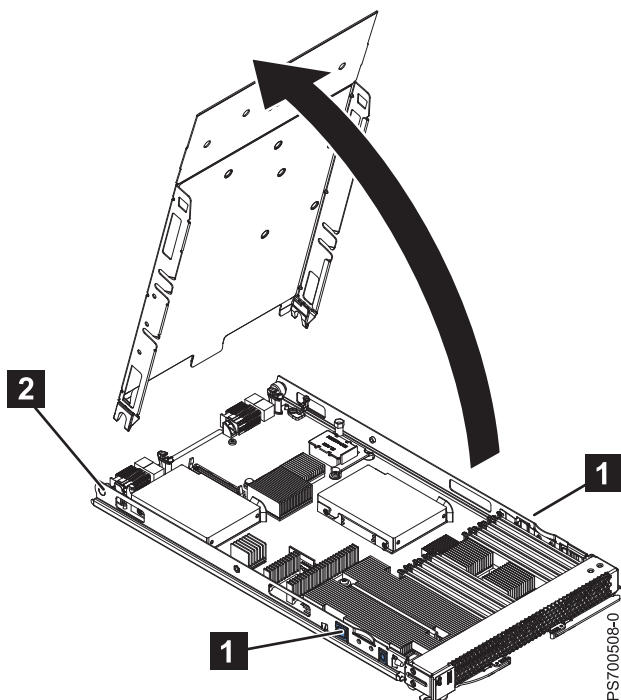

Figure 6. Removing the cover
4. Press the blade-cover release (as shown by **1** for the base unit in Figure 6) on each side of the blade server, rotate the cover on the cover pins (**2**) and lift the cover open.